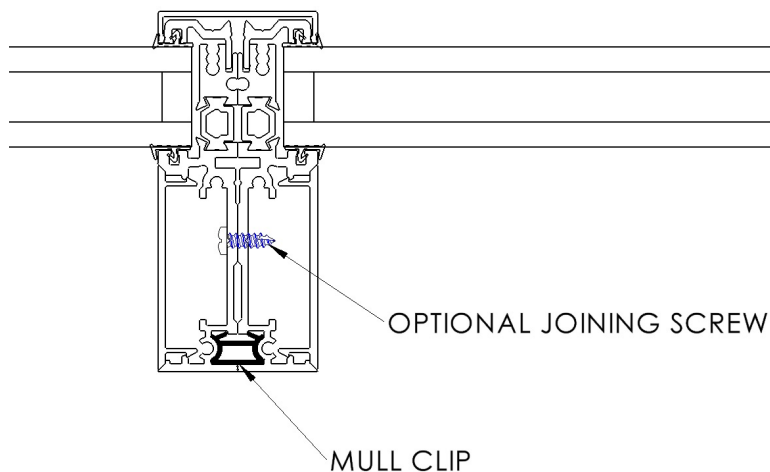

Figure 8
7. Begin to join the two (2) window units together until the frame members come into contact and the mull bar is no longer visible.
8. Verify that the reveal is even from top to bottom. If necessary, use quick clamps with the tips protected and squeeze the units together for an even reveal. Additional #10 x $\frac{1}{2}$ " joining screws shall be added between the two units, at 16 " on center location, as shown in Figure 8 for units with a horizontal mull greater than 96 ".